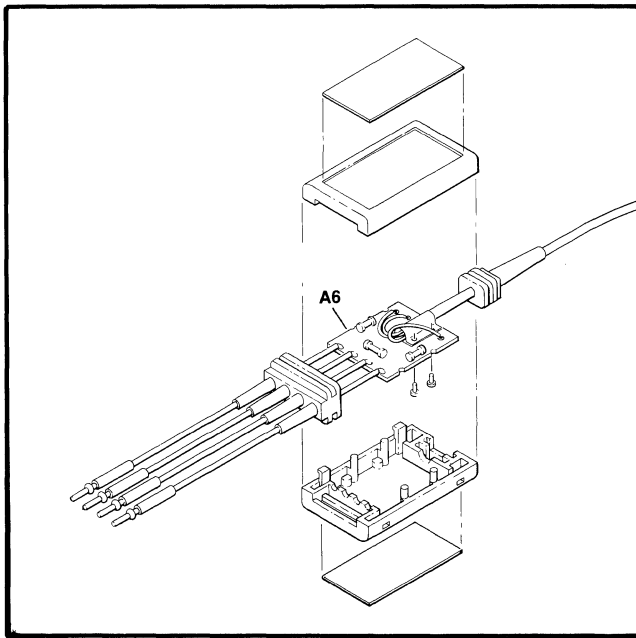

Figure 8-5. Timing Pod Disassembly
a. The Timing Pod halves are secured together by four locking retainers, two located on either side of the pod. To disassemble the pod, insert the tip of a small flat-bladed screwdriver, pressing in on the retainer while gently separating the pod halves. Note the positions of the wire colors as a reminder for reassembly; green = START/ST/SP/, red = STOP/QUAL, yellow = CLOCK, and black \perp . See Figure 8-5.